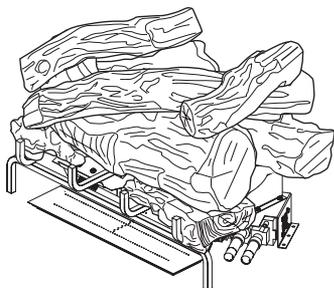

Figure 33 - Final Assembly
8. Final Assembly is shown in Figure 33, page 20. See Figure 34, page 20 for additional views.